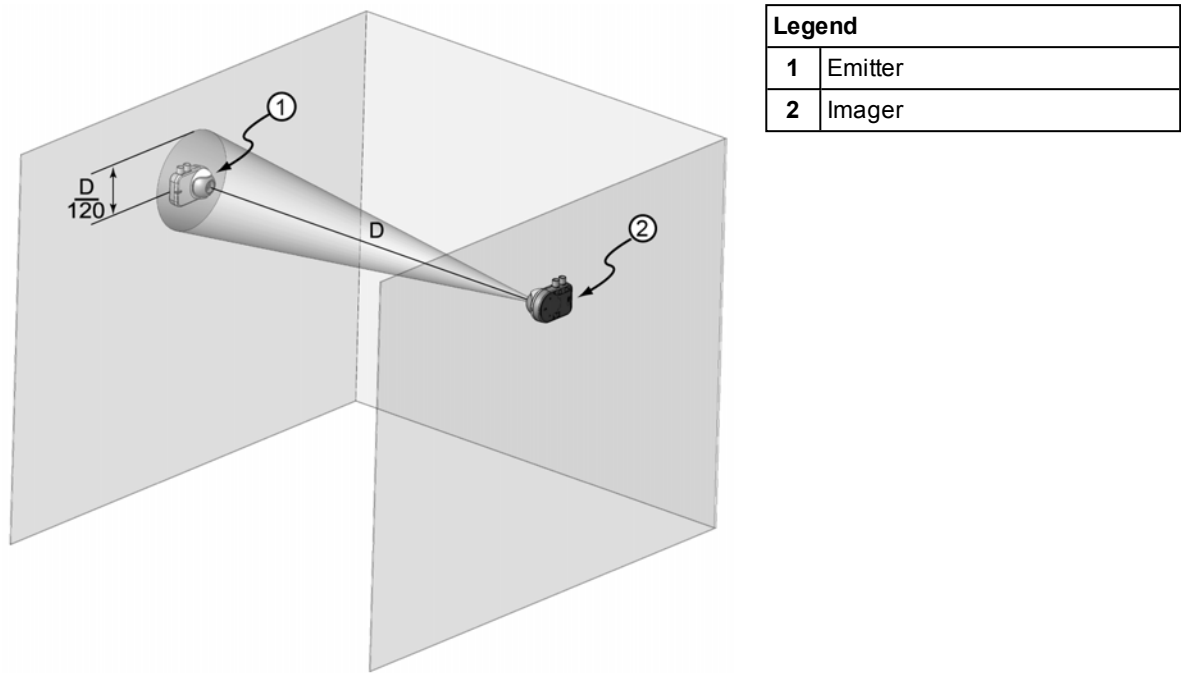

Figure 4-19: Alignment guidelines for 10° Imager to Emitter
Note: Emitter alignment follows the same guidelines as 10° Imager alignment. The Emitter must be positioned with the Laser Alignment Tool to within $D/120$ of the Imager, where D in Figure 4-19 is the distance between the Emitter and Imager.
1. Switch ON and insert the laser alignment tool (1) into the alignment hole (2).
2. Use the laser tool to move the optical sphere (3) until the laser beam is pointing towards an area within the specified limits as shown in Figure 4-19.